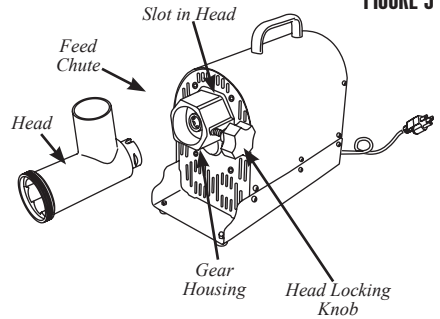

FIGURE 5
1. Insert the Head into the Gear Housing with the feed chute of the Head facing straight up. You will need to line up the slot in the Head with the Pin inside the Gear Housing. Be sure the Head is seated fully into the Gear Housing. **(FIGURE 5)**